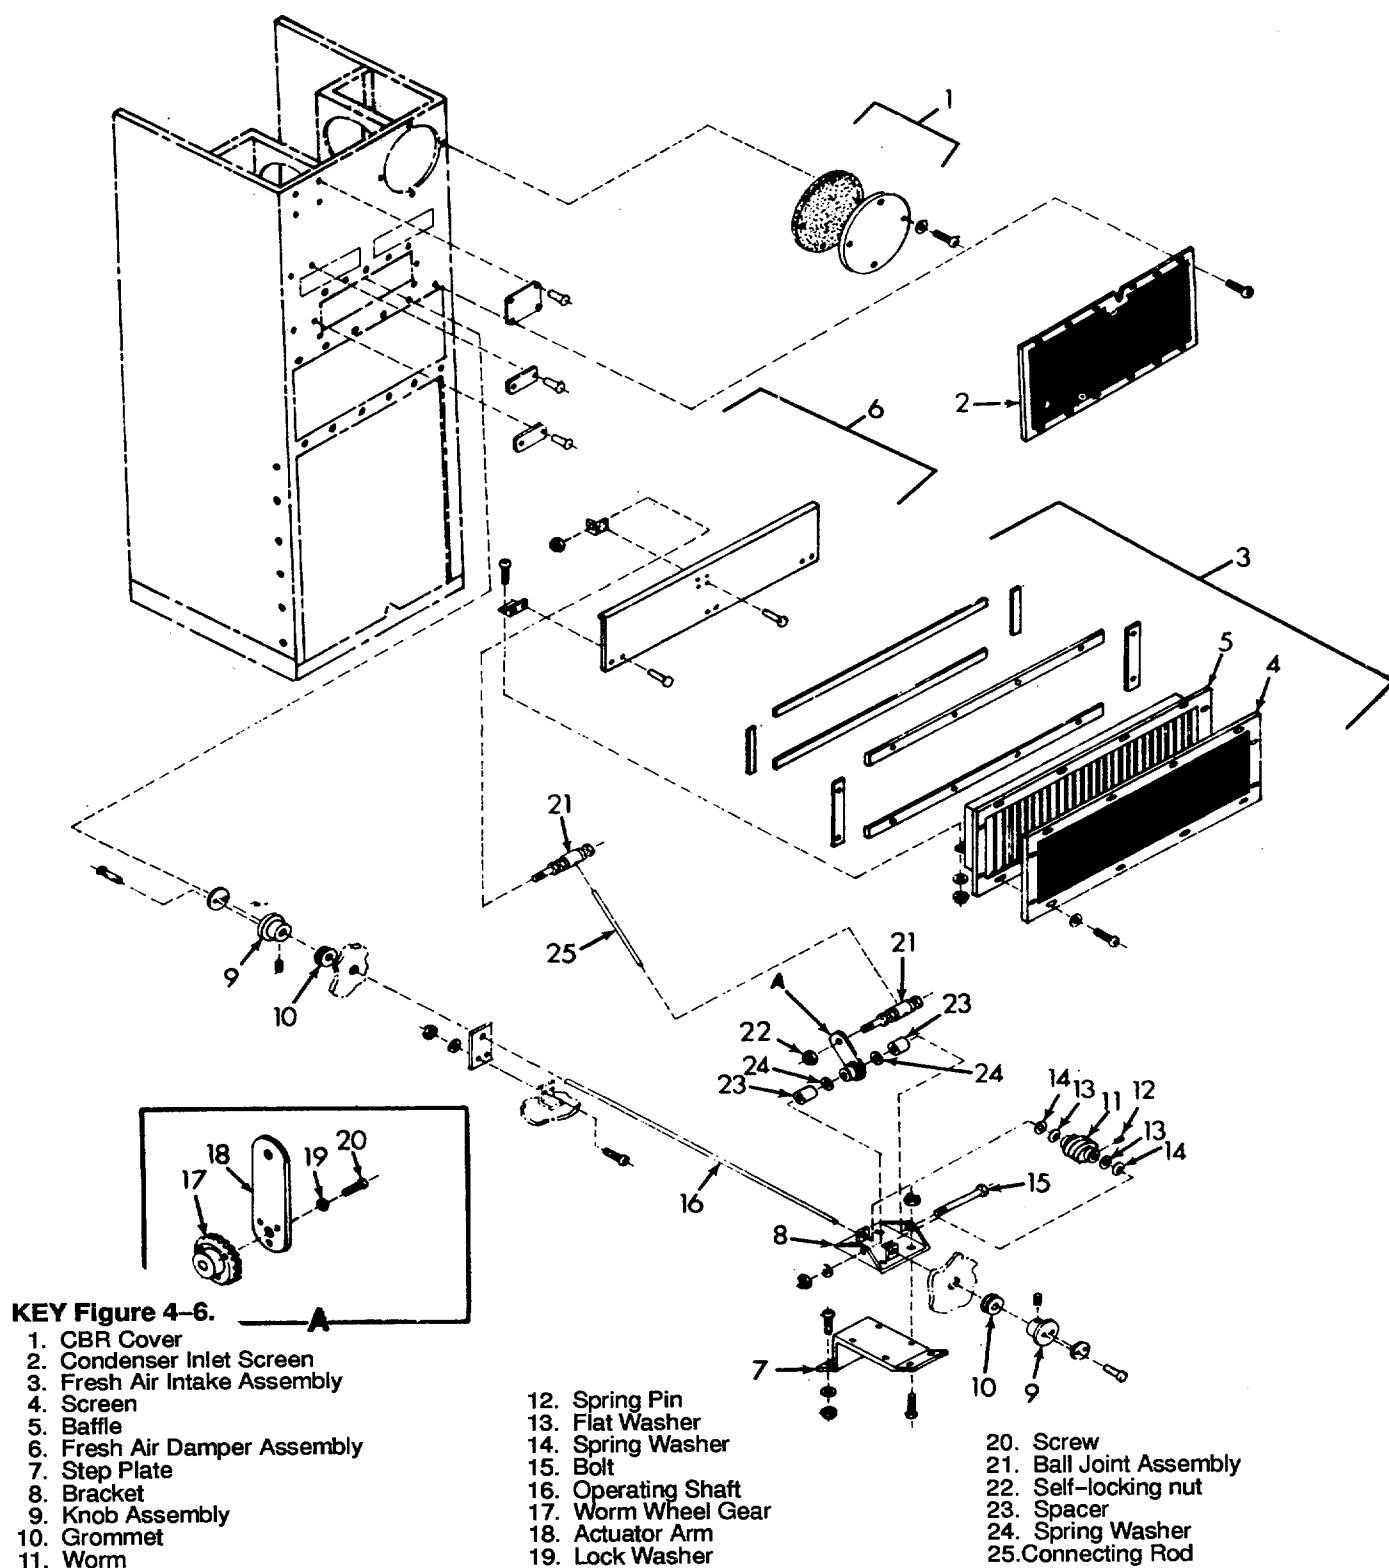

Figure 4-6. Fresh Air Intake and Damper
**a. General** The fresh air damper control adjusts the position of the fresh air damper through a worm and pinion. (See figure 4-6.) The worm is pinned to the operating shaft which extends through holes in the front and rear surfaces of the air conditioner casing. The pinion is attached to an actuating arm which opens or closes the fresh air damper through a connecting rod and ball joint linkage. Except for the knobs at each end of the operating shaft, the entire control is housed within the air conditioner casing.
**c. Removal** Remove the fresh air damper control in accordance with the following directions: (See figure 4-6.)
(1) Loosen setscrews, and remove knobs (9) from both ends of operating shaft (16).
(2) Remove 12 screws and washers from each air intake (return air) grille, and remove the grilles from the front of the unit.
(3) Remove 12 screws from the top and bottom edges of the condenser inlet screen (2) and remove the screen from the back of the unit.
(4) Reach through the front air intake opening, and loosen the binding nut on the ball joint (21) at end of actuator arm (18, A).
(5) Remove 12 screws and washers from the fresh air intake screen (4) and baffle (5) and lift out the screen and baffle with damper plate (6) attached.
(6) Remove four screws and self-locking nuts from the corners of the step plate (7) on which the operating mechanism is mounted.
(7) Move the entire assembly toward the front of the air conditioner until the rear end of the operating shaft (16) is free of the grommet (10) and hole. Pull the assembly out through the outside air intake opening.
**d. Disassembly.** Disassemble the fresh air damper control only to the extent necessary to replace damaged parts. Proceed as follows (See figure 4-6).
(1) Remove the nut and washer from bolt (15), and withdraw bolt from bracket (8). Remove actuator arm assembly (A). Spacers (23) and spring washers (24).
(2) Drive spring pin (12) out of the worm gear (11), and slide operating shaft (16) out of worm gear and spring washers (13).
(3) Remove three screws (19) and lock washers (20) from pinion (17) and actuating arm (18).
(4) Remove the self-locking nut from ball joint (21), and remove ball joint from actuator arm (18) or damper plate (6).
(5) Remove four screws and self-locking nuts fastening bracket (8) to step plate (7).
(6) Remove six screws, washers and nuts from the hinges attaching damper plate (6) to baffle (5).
(7) Loosen screw of ball joint (21), and slide out connecting rod (25).
**f. Assembly.** Assemble the fresh air damper control in accordance with the following steps: (See figure 4-6.)
(1) Attach the bracket (8) to the step plate (7), and secure with four screws and self locking nuts.
(2) Place worm gear (11) in bracket (8), with a spring washer (14) and flat washer (13) at each end of worm gear. Push operating shaft (16) through bracket, spring washers and worm gear until pin holes in worm gear and shaft are aligned. Press spring pin (12) into holes.
(3) Attach actuator arm (A, 18) to worm wheel gear (17) with three screws (20) and lock washers (19).
(4) Place actuating arm assembly (A) in bracket assembly with a spring washer (24) on each side, and a spacer (23) between each spring washer and the bracket. Insert bolt (15) through the aligned holes, and assemble the flat washer and self-locking nut on threaded end of bolt. Tighten nut until a slight drag is felt when rotating the operating shaft.
(5) Install ball joint through hole in end of the actuator arm.
(6) Install the operating shaft assembly into the air conditioner casing through the outside air intake opening. Insert the long end of the shaft into the grommet (10) and hole in the front of the casing. Fit the short end of the shaft into the grommet and hole in rear of casing.
(7) Attach the step plate (7) to the floor of the compartment with four screws, washers and self-locking nuts.
(8) Attach hinges of damper plate (6) to flange of fresh air baffle (5) using six screws, washers and self-locking nuts.
(9) Install ball joint in bracket on damper plate, and secure with self-locking nut. Insert connecting rod (26) into hole in ball joint, and lock in place.
(10) Install baffle and damper plate assembly in casing. Position outside screen (4) on baffle, and secure with 12 screws and washers.